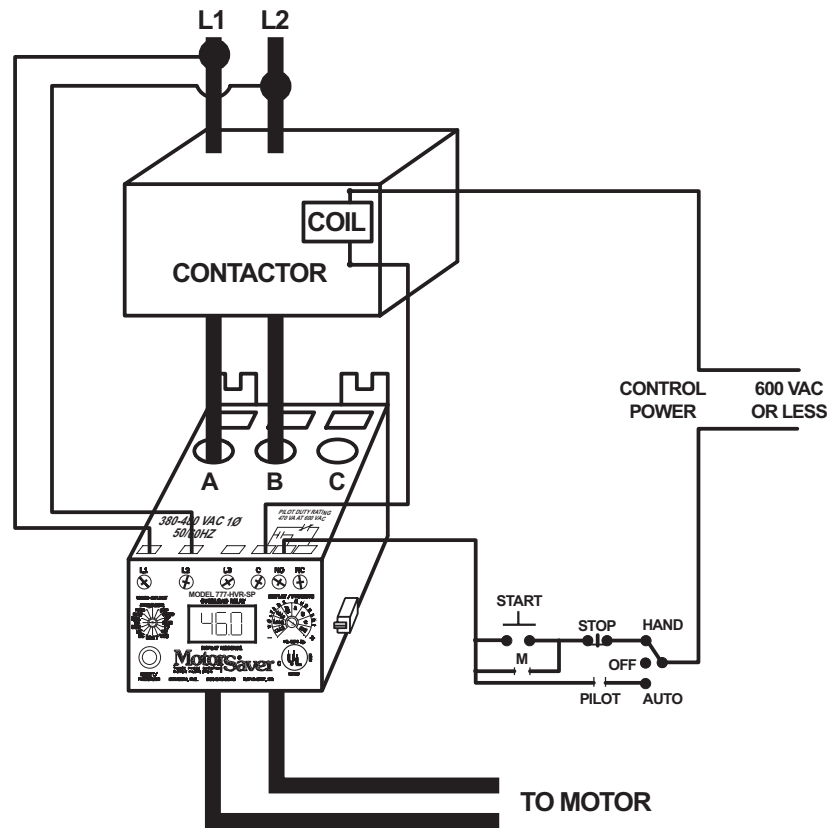

Figure No. 1: Typical Wiring Diagram
- Insert the motor conductors through the round holes marked "A" and "B." Terminate the conductors at the line or load side of the magnetic contactor. **Note: For motors with full load amps less than 25 Amps,** loop the conductors through the holes marked "A" and "B" according to Table No. 1 below. The rectangular holes behind the holes marked "A" and "B" are provided for wire looping. (see Figure No. 1).
- Connect the single-phase power from the line side of the contactor to "L1" and "L2." First insert a #12 - #18 AWG wire into the top of the terminal marked "L1" and tighten the screw on the front of the overload relay. Then, connect the other end of the wire to the line side of the contactor. Repeat these two steps for "L2." (see Figure No. 1).
- Connect the output relay to the circuitry to be controlled (see Figure No. 1). To control a motor, connect the normally open contact in series with the magnetic coil of the motor starter as shown. To sound an alarm, connect the normally closed contact in series with the alarm (not shown).